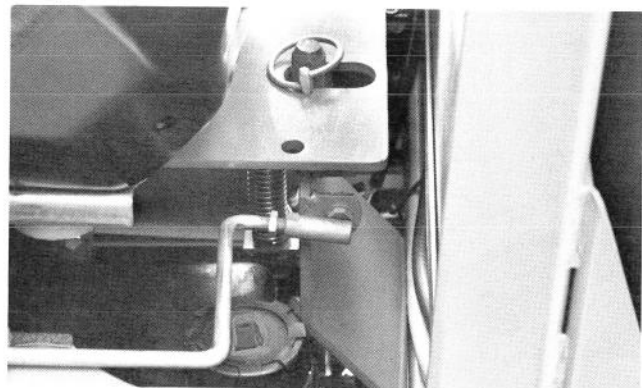

Figure 14
6. Disengage seat support rod and slide it into retaining clips (Fig. 14). Pivot seat down and push lynch pin through seat latch stud. Flip wire end of pin over latch stud (Fig. 14).